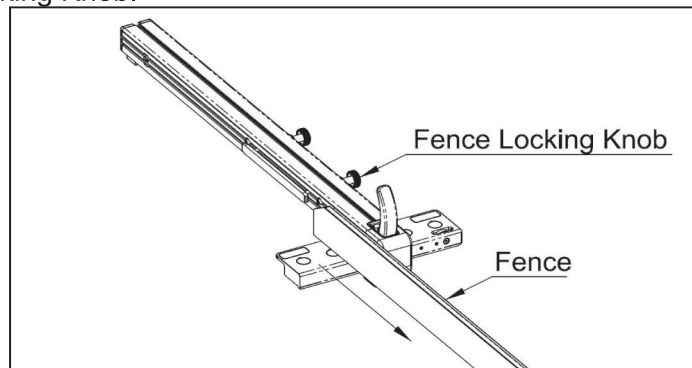

Fig. 6-14
1. As shown in Fig. 6-14, loosen the Fence Locking Knob, remove the Fence, and set it aside. Then, re-tighten the Fence Locking Knob.